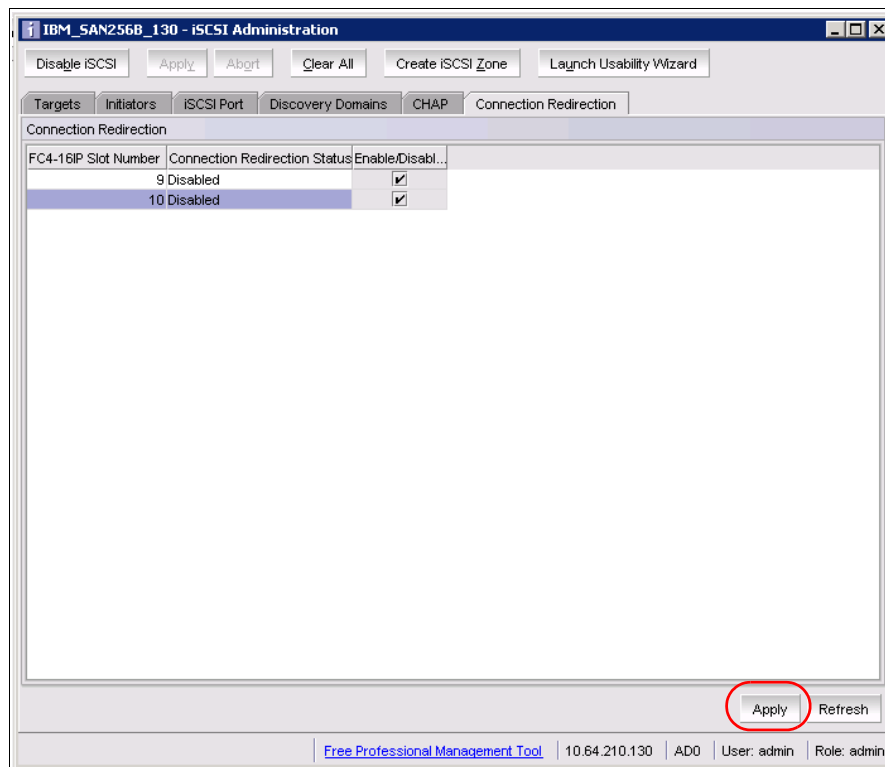

Figure 11-41 Enable connection redirection
2. Click **Apply** to commit the configuration. See Figure 11-41.